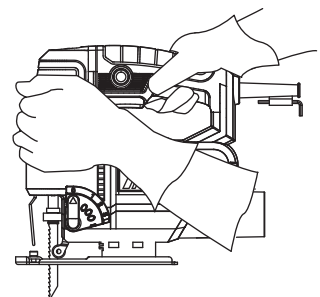

Fig. 13
- > Hold the product with one hand on the handle (4), and with the other hand on the gripping surface (19). Never try to operate the product with only one hand! Keep your hands away from under the workpiece (Fig. 13).